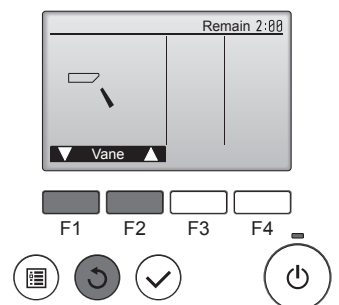

Fig. 5-6
- ① Check the auto vane with the **[F1]** **[F2]** buttons. (Fig. 5-6)
- ② Press the button to return to "Test run operation".
- ③ Press the button.